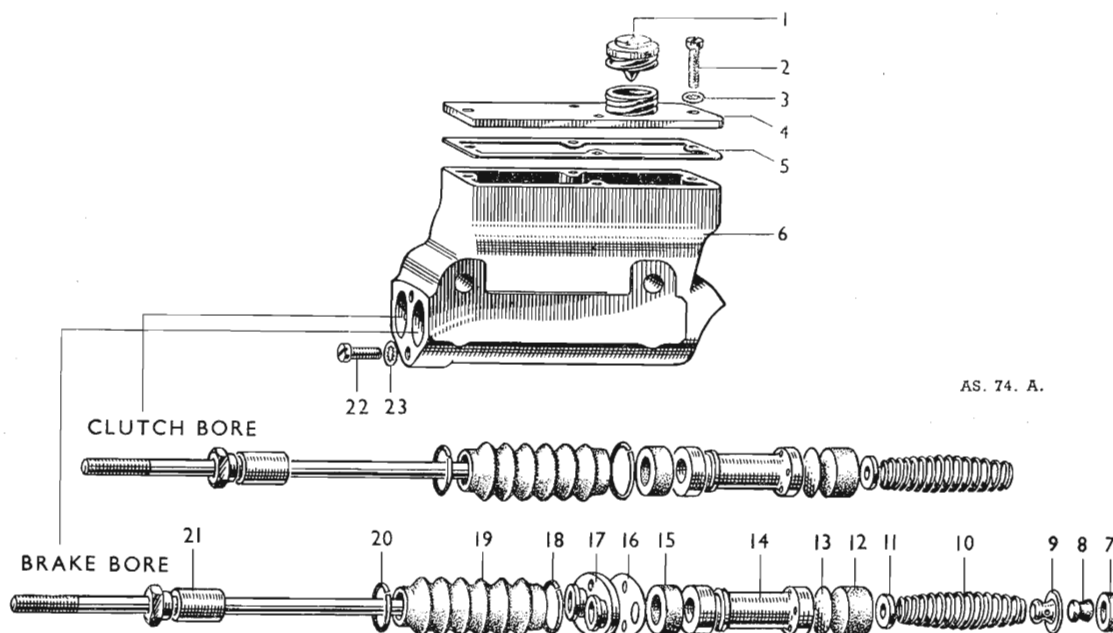

Fig. L.4. The master cylinder exploded.
- (1) Unscrew the set screws securing the boot fixing plate to the master cylinder body.
- (2) Detach the fixing plate from the master cylinder leaving the boots and push rods attached to the clutch and brake pedals.
- (3) Unscrew the common filler cap and drain the fluid into a clean container.
- (4) Withdraw the piston (14) Fig. L.4, piston washer (13), main cup (12) and return spring (10), valve body (9) complete with rubber cup (8) and rubber washer (7).
- (5) Using only the fingers to prevent damage, remove the secondary cup (15) by stretching it over the end flange of the piston.
- (6) Examine all parts, especially the washers, for wear or distortion, and replace with new parts where necessary.